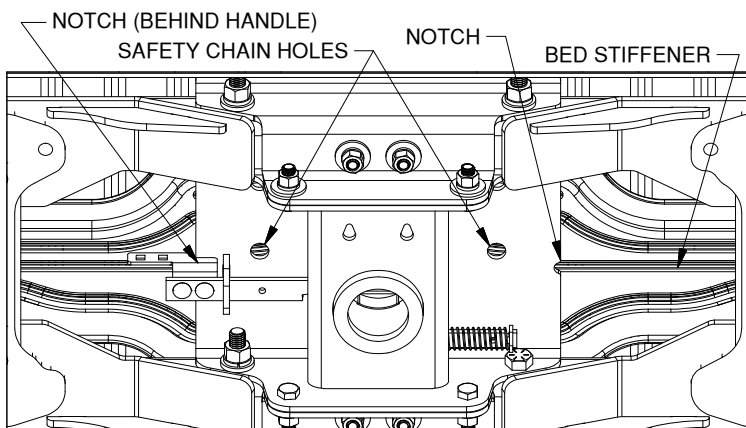

Figure E1: View looking up under the bed.
- 3. Square the center section.** The center section has notches and safety chain holes on each side, see Figure E1. Compare the location of these notches and holes with the grooves and geometry on the bed stiffener. Rotate the center section and cross members until the notches and holes are evenly aligned on both sides with the stiffener.